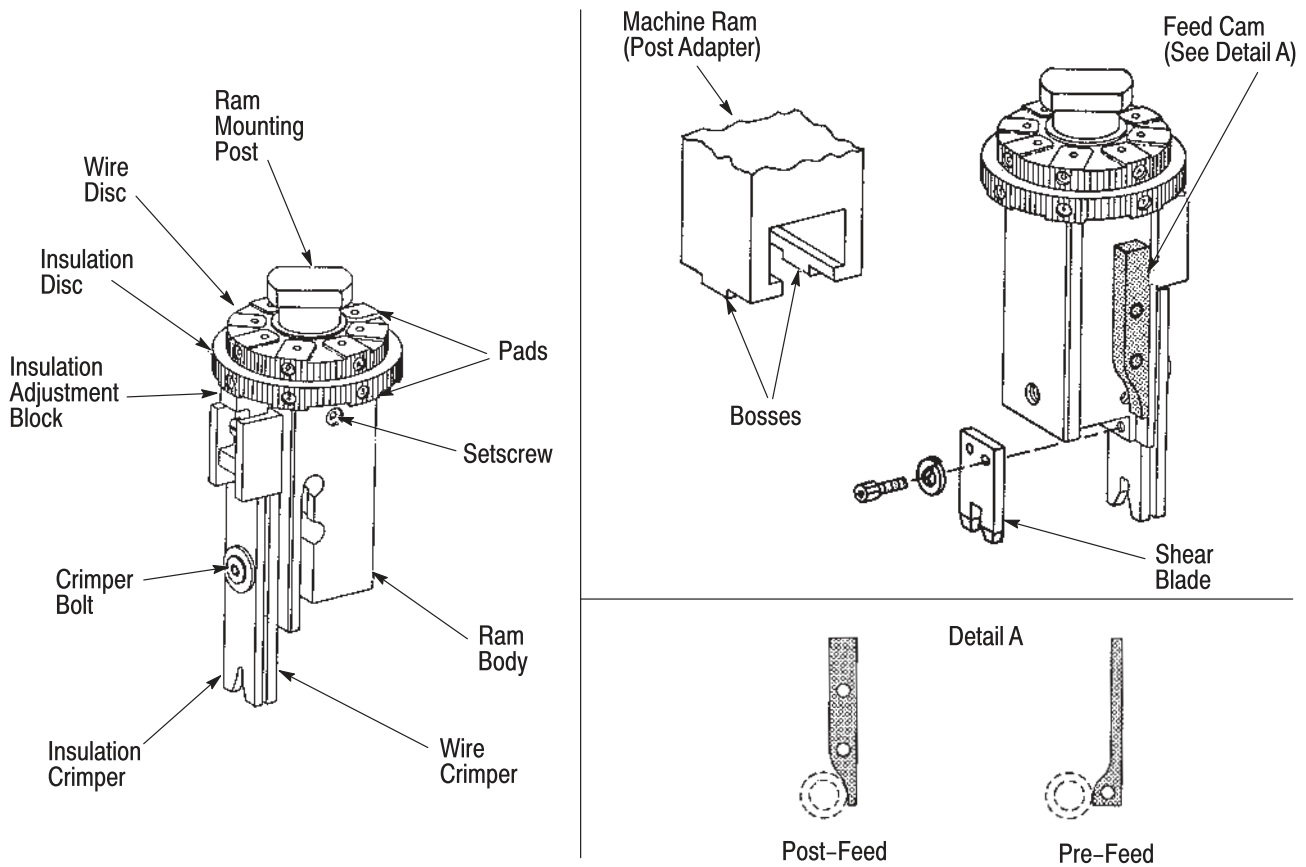

Figure 3
The ram mounting post of the ram assembly (shown in Figure 3) engages with the post adapter of the machine ram, and it is the machine ram that actuates the applicator. Just below the ram mounting post is a
wire disc and an insulation disc. The wire disc has as many as four pairs of pads, with each pair being of a different height. By rotating the disc, each of the several pairs can be aligned with the two bosses on the machine ram (post adapter) to vary the depth of stroke of the wire crimper over the anvil (refer to Figure 3).
2. Rotate applicator's wire disc (upper disc) to align selected pad letter with bosses on machine ram (post adapter). See Figure 3. This will provide proper crimp height for that wire size.
**6.5. Adjustable Crimp Height Repair (Figure 3)**